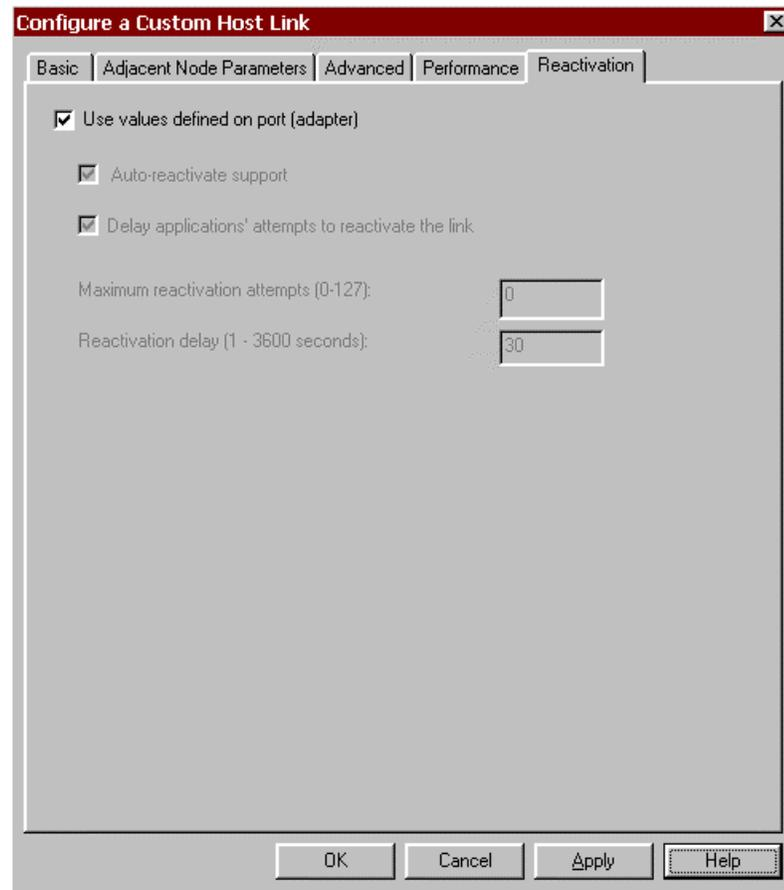

Figure 10-18. Reactivation Parameters
7. If you are using NetWare for SAA version 4, click the **Reactivation** tab (Figure 10-18).